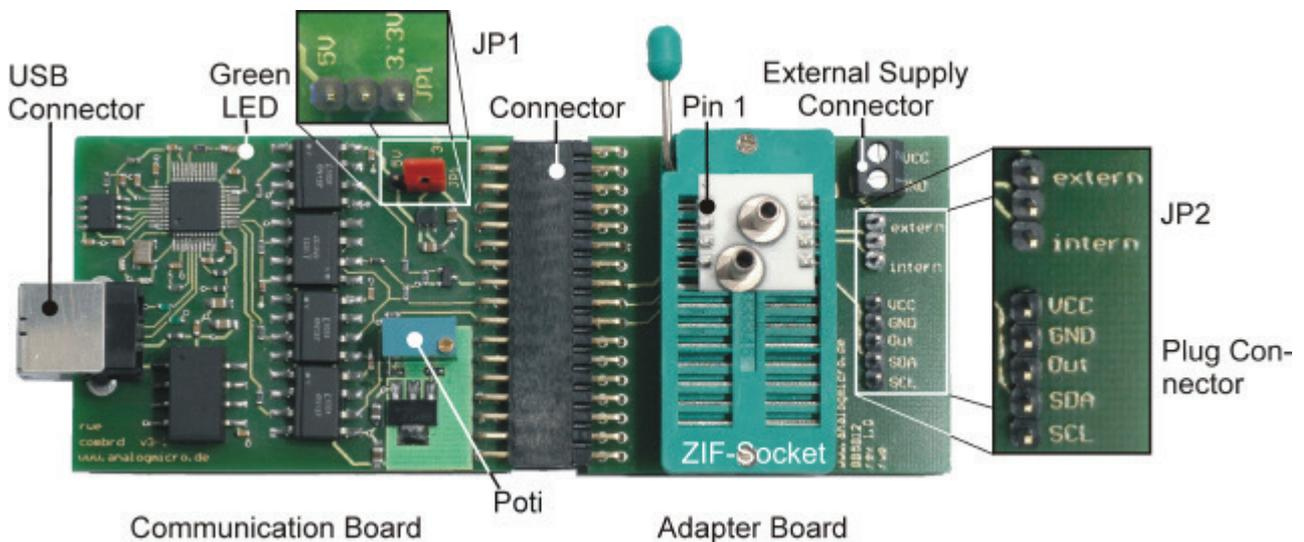

Figure 1: USB Starter Kit AMS 5812 with connected sensor.
The starter kit hardware consists of two printed circuit boards: the communication board *CB-I2C* and the adapter board *BB5812* with a ZIF-socket to connect one AMS 5812 sensor. Figure 1 shows the assembled kit with mounted sensor.
The connection between *CB-I2C* and *BB5812* is realised by a 34 pin connector. A zero injection force (ZIF) socket on the *BB5812* allows easy mounting and exchanging of an AMS 5812 pressure sensor. Pin 1 of the sensor is at the upper left edge of the ZIF-Socket (see Figure 1).
For the internal power supply of the connected AMS 5812 by the USB Port, JP 2 on board *BB5812* has to connect to position "intern". Additionally the sensor's supply voltage has to be chosen by the jumper JP1 on board *CB-I2C* (see Figure 1); for standard products of AMS 5812 series connect JP1 to 5V.
First, the adapter board *BB5812* for AMS 5812 sensor and the communication board *CB-I2C* are connected together by the 34 pin connector. Then, the sensor AMS 5812 has to be connected into the ZIF-socket on *BB5812* (orientation of pin 1: see Figure 1).
5. The green LED on the communication board flashes up, when the board is detected by the PC and the drivers are loaded successfully (see Figure 1).
5. The analog output signal is ratiometric to the supply voltage. If AMS 5812's specifications are to be tested, the supply voltage must be exactly 5.000 V. Any deviation in percent must be accounted for accordingly. In case of internal power supply the sensor voltage can be adjusted by the potentiometer on the *CB-I2C* (see Figure 1) exactly.